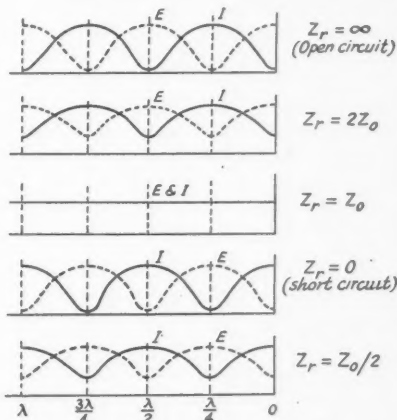

Fig. 4 — Standing-wave distribution when the line is terminated in pure resistances of different values.
In Fig. 4, the current and voltage waves are shown for different terminating impedances which are pure resistances (the effect of reactance terminations was shown in Fig. 3-A and 3-B). It will be noted that the points of minimum current agree with the two equations, (3) and (4), as the value of Z_r is either greater than or smaller than the surge impedance, Z_o . Curves for a great variety of load impedances were shown in a previous issue of *QST*.³